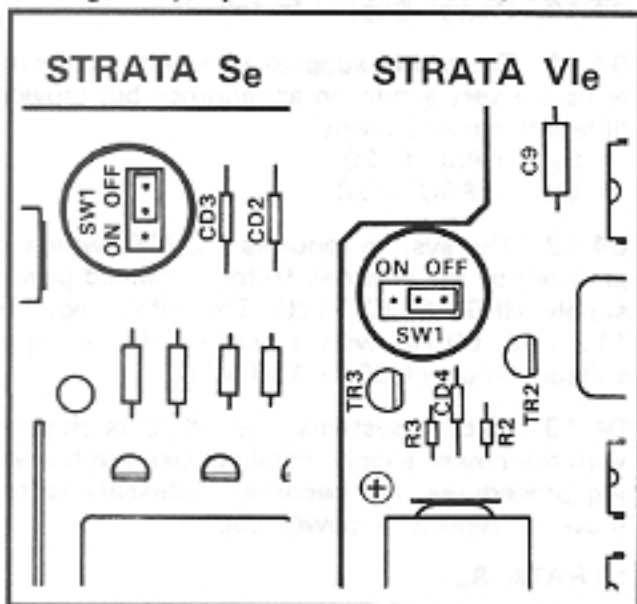

FIGURE 1—SCCU/VCCU BATTERY STRAP
02.05 Whenever storing or shipping, always ensure that the battery strap is in the OFF position (Figure 1). The SMAU/VMAU is a "host" board for the SCCU/VCCU (which is required) and they are shipped as an assembled unit.